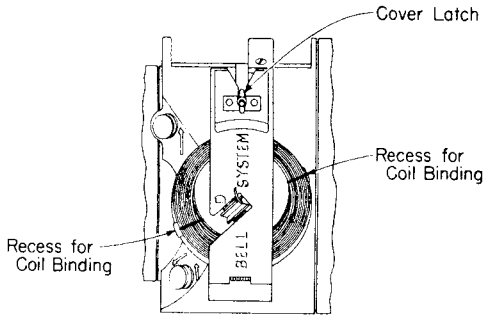
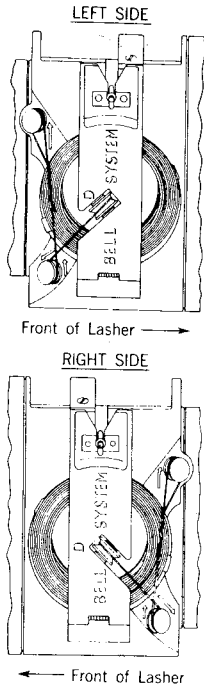

Fig. 20—Placing Wire Coil in D Cable Lasher
Fig. 21—Threading D Cable Lasher
- (1) If the coils are installed aloft, see that the strand tensioning roller is engaged under the strand, the rear cable lifter is closed, the pulling gate is open, and the rotating drum of the lasher is locked.
- (2) Loosen the wing nut on the cover latch and open latch. The cover will open automatically.
- (3) Place a coil in the magazine. The face of the coil should be toward the open side of the magazine. Position the coil with the two coil bindings in the recesses. Feed the loose end (inside end) of the wire from the center of the coil through the throat in the cover (Fig. 20).
- (4) Close the cover, latch, and tighten the wing nut until the cover contacts the coil lightly.
- (5) Cut the two remaining bindings and remove them. (If portions of the bindings are not removed, they may cause snagging of the lashing wire.)
- (6) Tighten the wing nut by hand. Do not use pliers.
- (7) Thread the lashing wire around the snubbing pulleys in the direction of the indicating arrows and wind the free end of the lashing wire as shown in Fig. 21. The lashing wire should not project or dangle from the lasher.